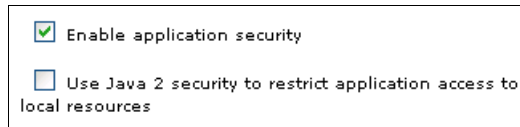

Figure A-60 Security Configuration Wizard: Step 1 for WebSphere Process Server
3. In Step 1, select **Enable application security** and click **Next** (Figure A-60).